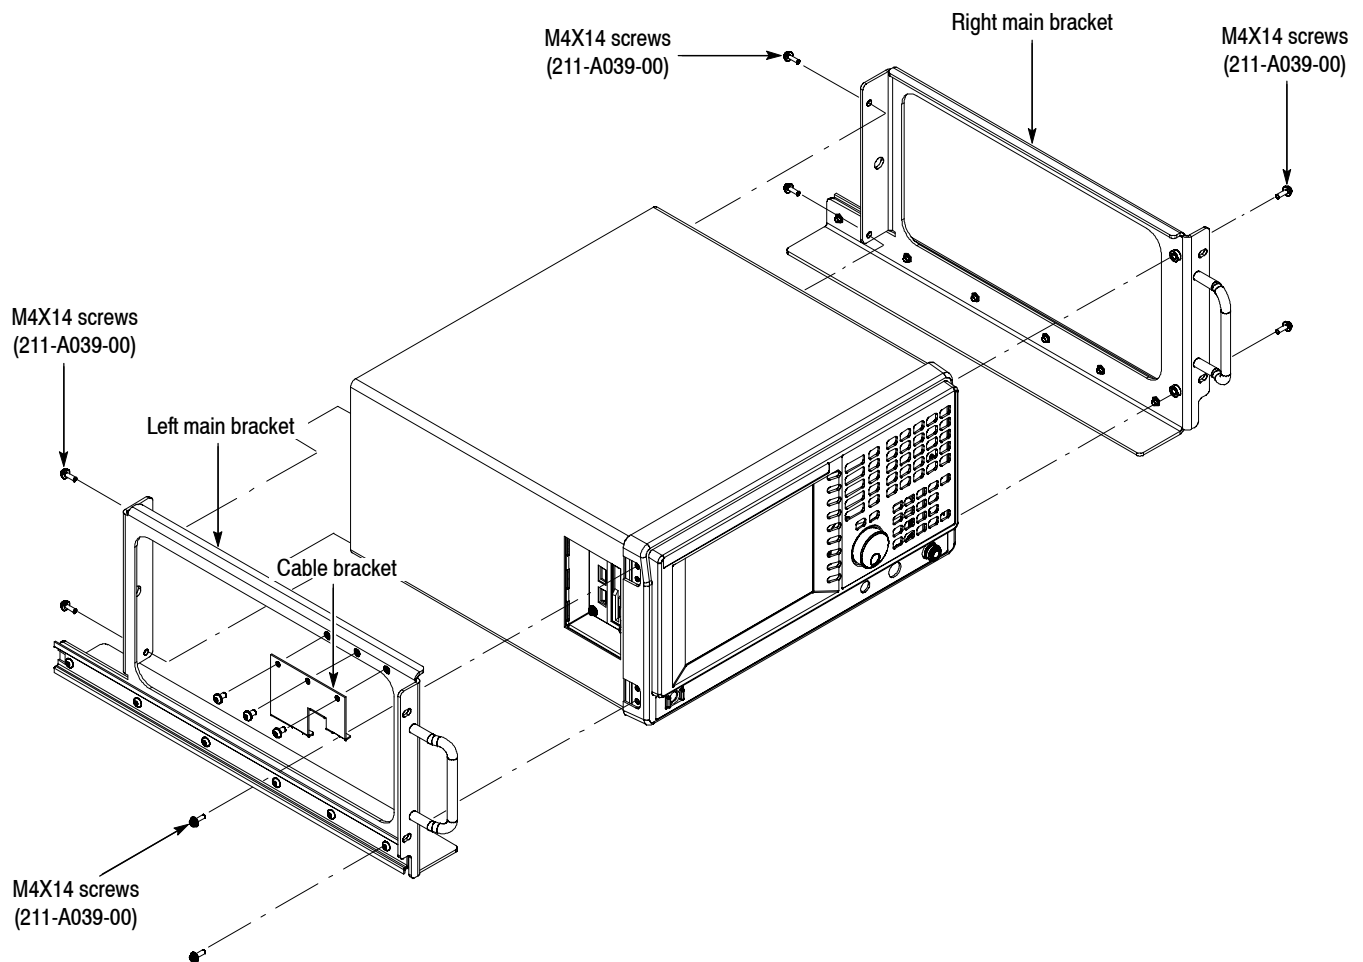

Figure 6: Rackmount assembly
- a. Install the right main bracket to the side and rear of the analyzer using four M4 x 14 screws. See Figure 6.